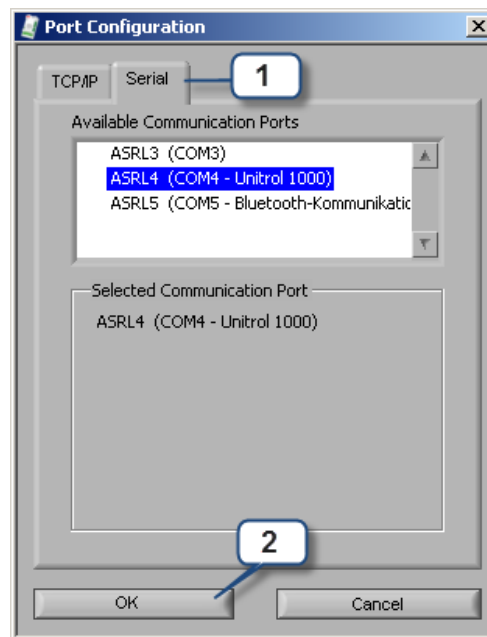

Figure 6-3 USB COM Port Configuration.
1. Connect via the USB port from the PC select the "Serial" tab (1) first. See *Figure 6-3*
2. Click the Ok button (2) to save the changes, or Cancel to abort the configuration.